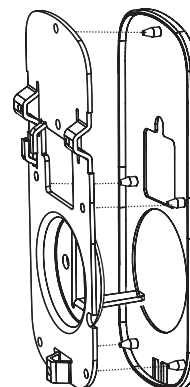

Figure 3A
- a. Ensure that gasket on Inside Mounting Plate is properly fitted. Note the positioning of the gasket's five rubber nubs (Figure 3A) .
As you position the outside escutcheon, route the cable through 2-1/8" diameter hole (Figure 3A).